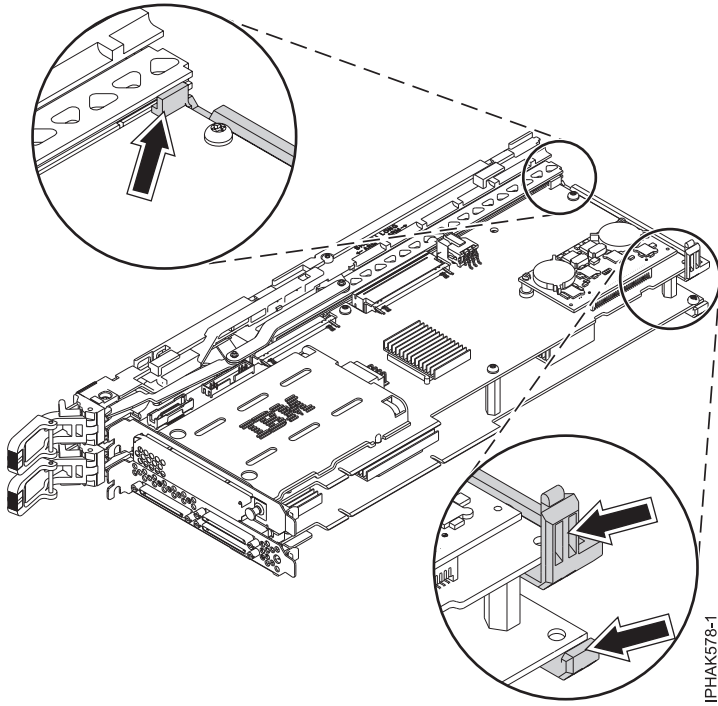

Figure 75. Detaching the rear arms of the cassette assembly
- b. Detach the rear arms of the cassette assembly from the bottom corners of the double-wide adapter. See Figure 75 on page 87.